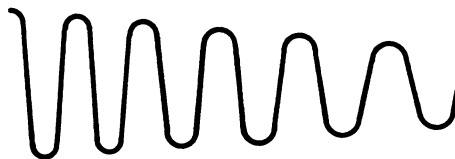

FIG. 3.51
39. Study the oscilloscope trace shown in Fig. 3.51.